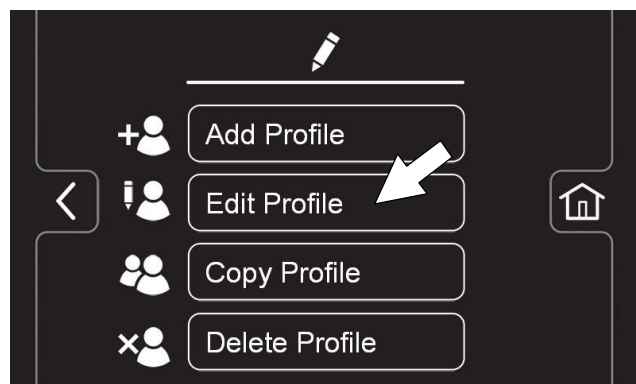

FIG. 190
3. Press the Edit Profile button (Figure 190).